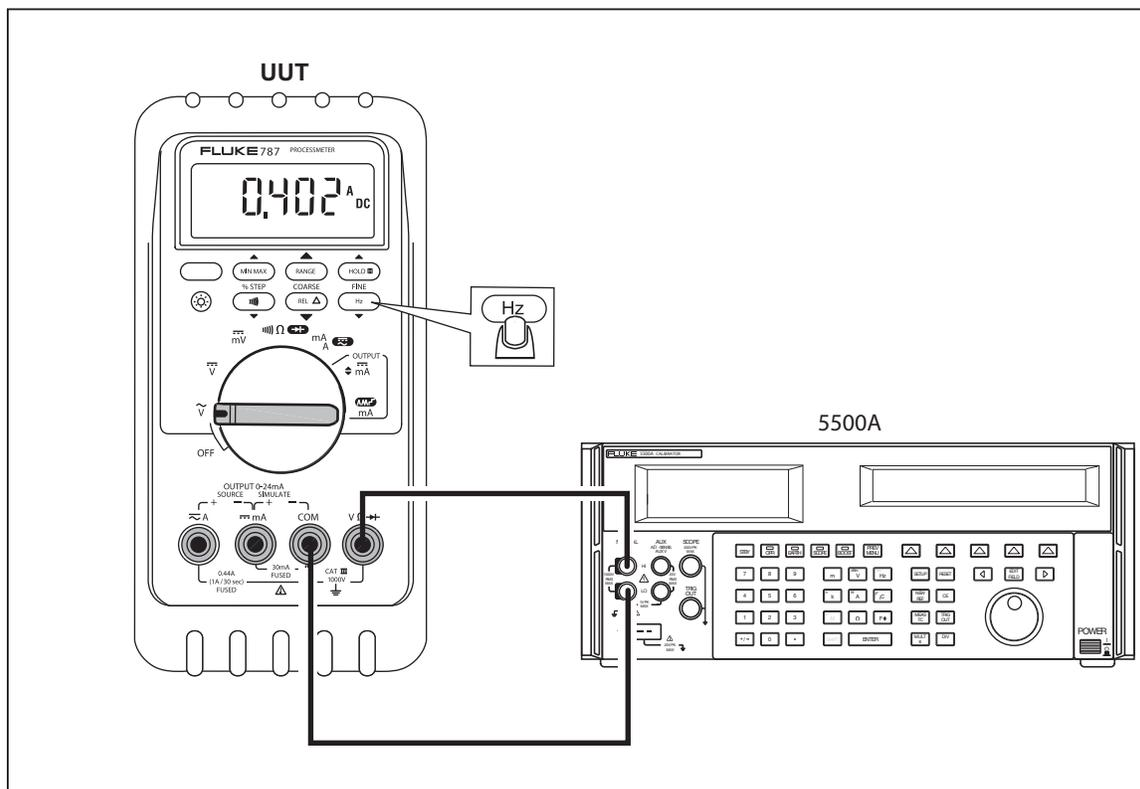

Figure 11. Frequency Measurement Test Connections
4. Connect the calibrator to the **COM** and **V $\Omega$ →** terminals on the UUT as shown in Figure 11.